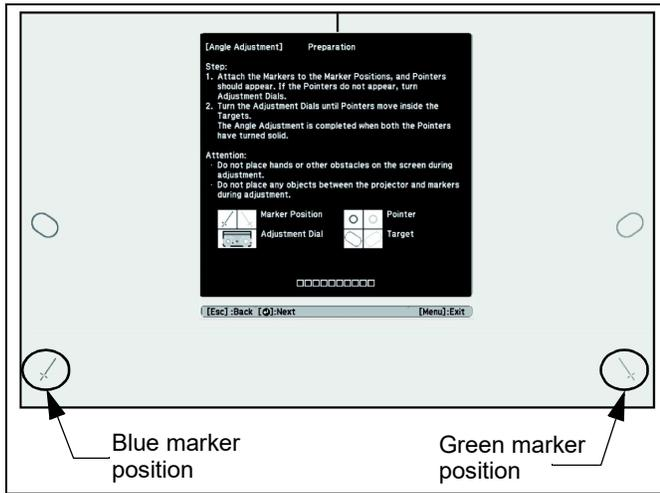

Figure 39
- Attach the two magnetic markers (included with the BrightLink projector) to the positions shown on the projected image. (See Figure 39)